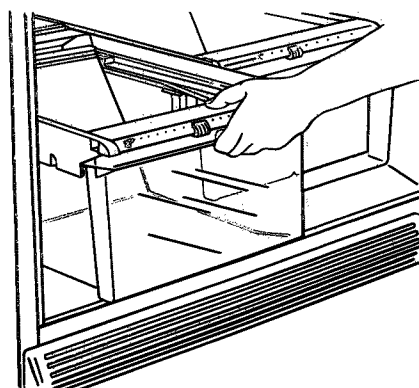

Figure 37
- i. Remove crisper system on left* side by grasping and lifting up top front with one hand while reaching underneath drawer and pushing up with other hand. See Figure 37.